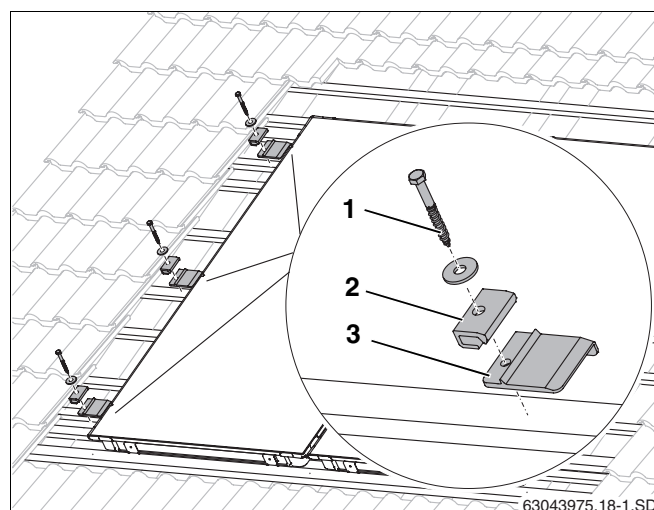

Fig. 28 Fitting the left-hand clamps
- ▶ Lift left-hand collector slightly and, on the 2nd and 3rd additional battens, as well as halfway along the collector on a free batten, push the left-hand pack plates (Fig. 28, **Item 3**) under the collector until the roof pushes against the lower edge of the collector.
- ▶ For the screw (Fig. 28, **Item 1**) drill a pilot hole with a 4 mm drill.
- ▶ Fasten the single-sided clamps (Fig. 28, **Item 2**) with a 6x40 screw (Fig. 28, **Item 1**) and washer (use size 10 spanner).